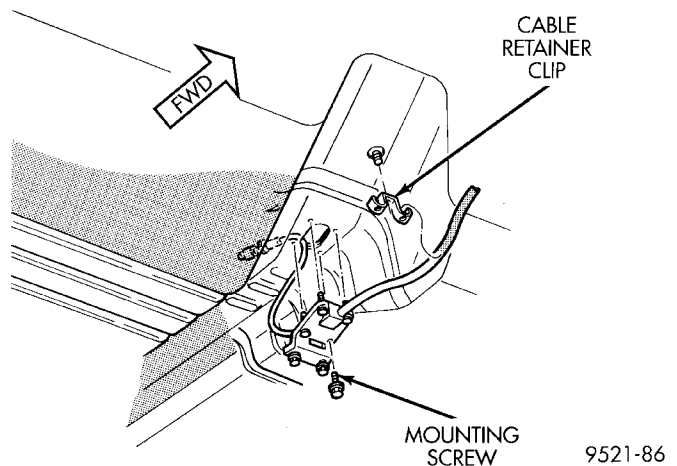

Fig. 12 Cable Mounting Underbody
(15) Hoist vehicle. Refer to Group 0, Lubrication and Maintenance.
(16) Remove the one screw at the shift cable grommet plate (Fig. 12).
(17) Loosen screws on shift cable grommet plate. Slide plate out and away from heat shield.